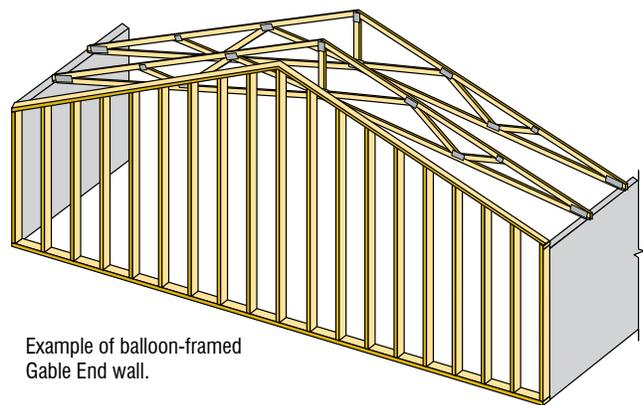
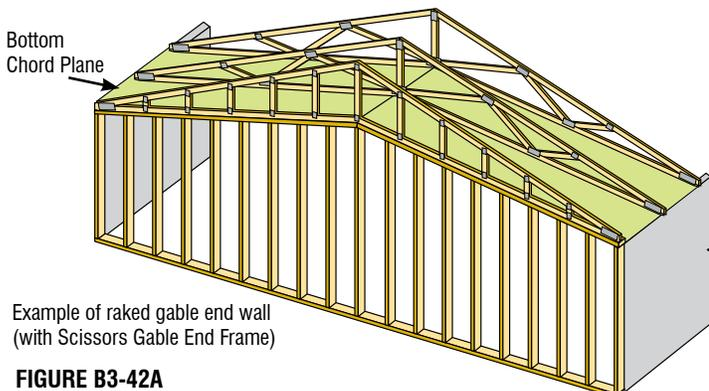

FIGURE B3-41
FIGURE B3-42A
- ✓ The Building Designer may decide to design a balloon-framed end wall, which eliminates the need for a Gable End Frame (see Figure B3-41). If a Gable End Frame is used, it must match the profile of the adjacent Trusses so that proper Bottom Chord Plane Bracing can be installed (see Figure B3-42A), unless special Bracing is designed to support the end wall.